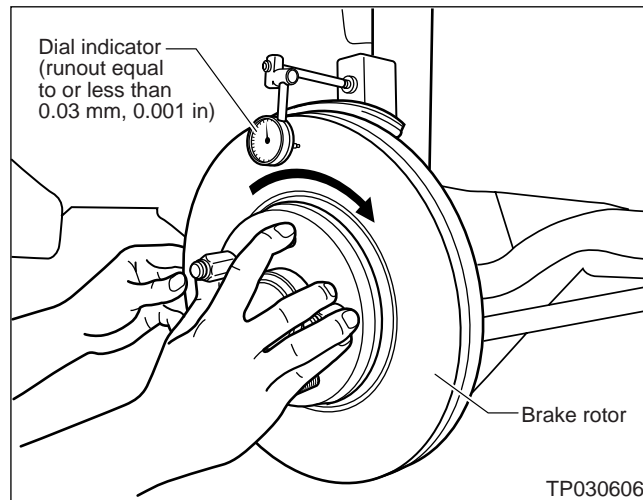

Figure 3
4. Measure rotor run-out with a dial indicator (see Figure 3). If the run-out is above 0.001" (0.03 mm), continue with step 5.